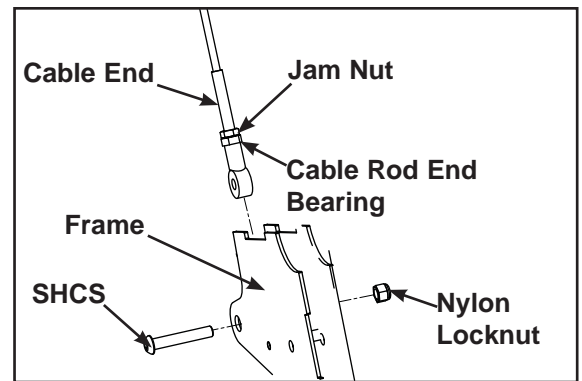

Figure 7
- 2. Rod End Adjustment** - This type of adjustment contains a socket head cap screw (SHCS) securing a cable rod end bearing to the machine. Primary adjustment is by turning the rod end bearing. The other end of the cable usually contains a roll pin cable adjustment. See Figures 7 and 8.